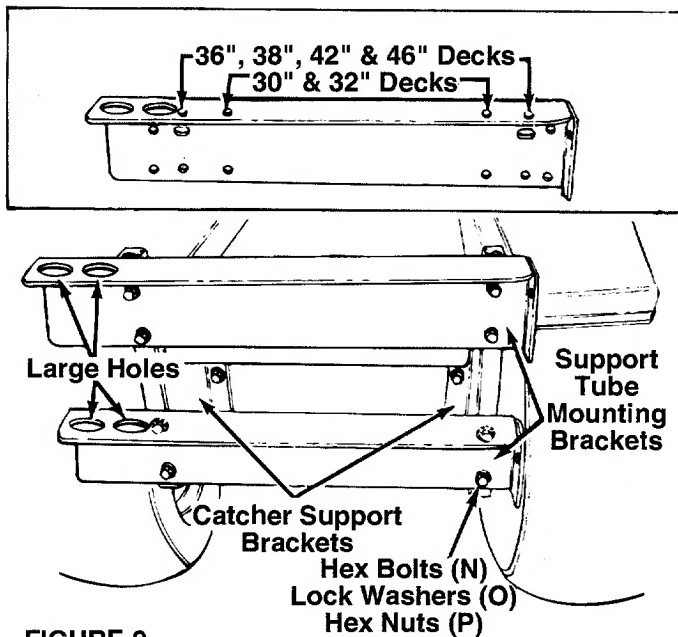

FIGURE 9.
- Examine the illustration in figure 9 to determine which holes in the support tube mounting brackets to use for your unit.
- Place the support tube mounting brackets in position against the support brackets. See figure 9. The large holes in the support tube mounting brackets go to the left side of the unit. The flange in the brackets go toward the top.
- Secure with hex bolts (N), lock washers (O) and hex nuts (P), finger tight only. After all eight hex bolts and nuts are assembled, then tighten securely.